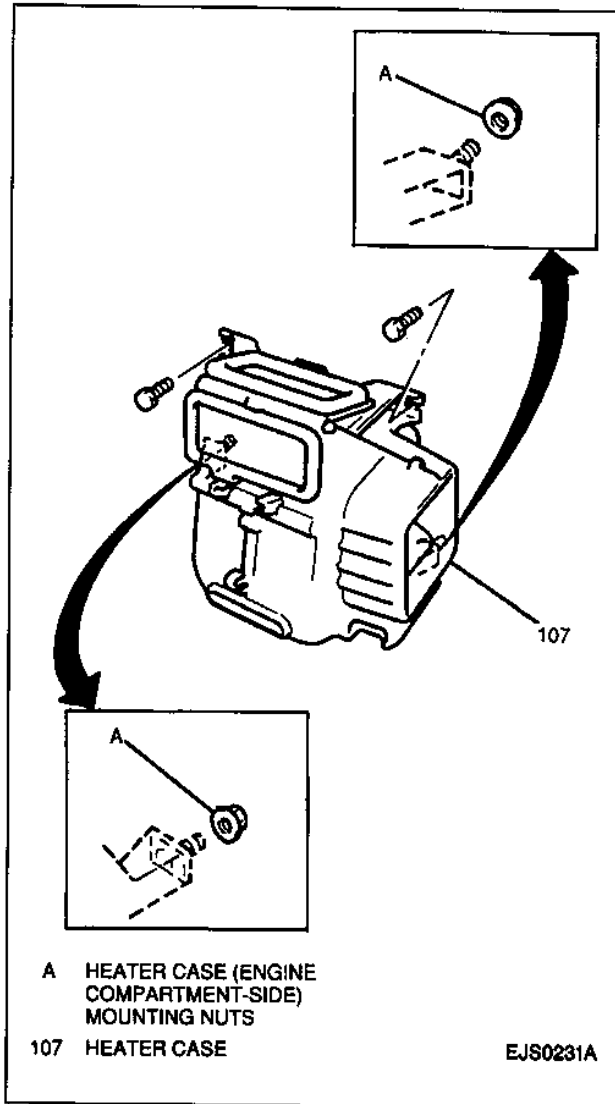

Figure 18—Heater Case Fasteners
14. Two heater case mounting nuts from the engine compartment-side of the bulkhead, and two heater case mounting bolts (Figure 18).